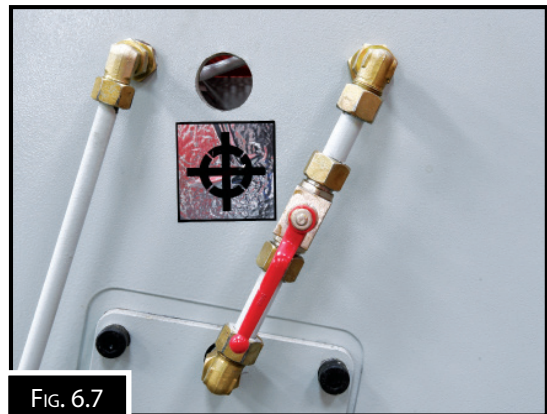

FIG. 6.7
2. Depress the foot pedal and move the blade to the maximum down stroke position then shut off the ball valve (Fig 6.7) to hold the stroke in the down position.